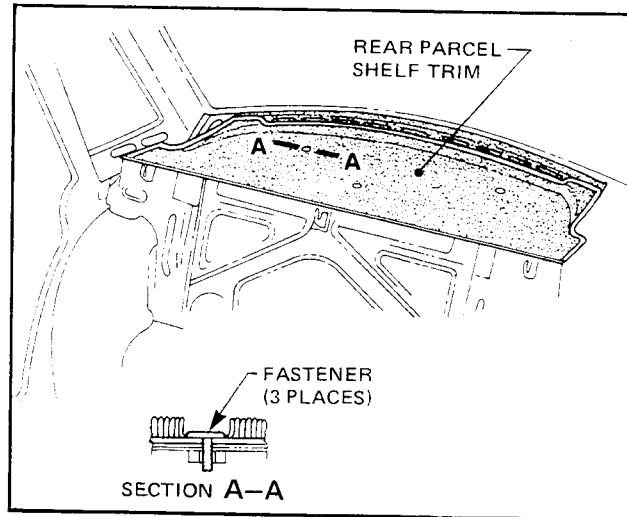

Figure 1A-18
- Ease rear door opening finishing lace from leading edge of quarter window inner upper trim, then using a broad bladed screwdriver located between trim and quarter inner panel, adjacent to trim fasteners (refer Sections A-A and B-B, Fig. 1A-19) carefully prise fasteners and trim from rear quarter inner upper panel.